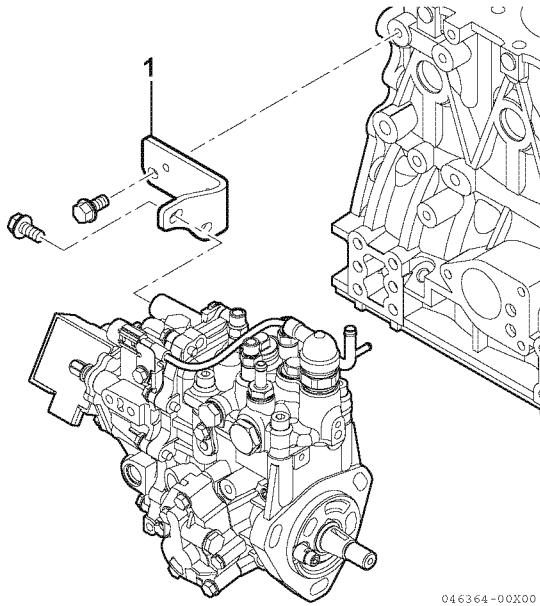

Figure 7-27
6. Reinstall the rear bracket(s) **(Figure 7-27, (1))** to the fuel injection pump. Tighten the rear support bolts.